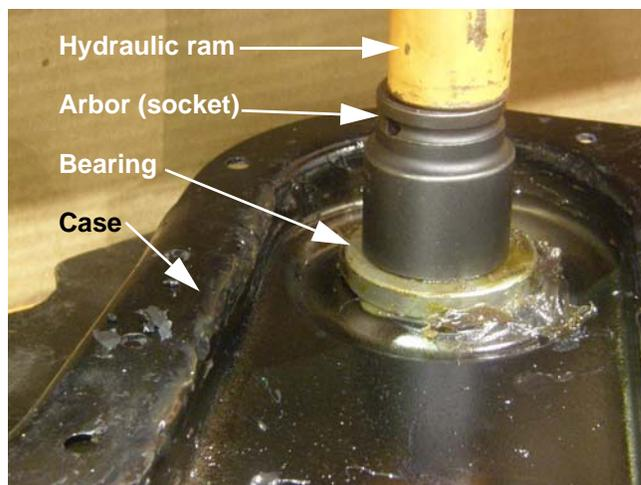

Figure 5.27
8. Press or drive the replacement bearing into the housing using an appropriate size arbor or driving tool that will not damage the thrust surface of the bearing. See Figure 5.27.